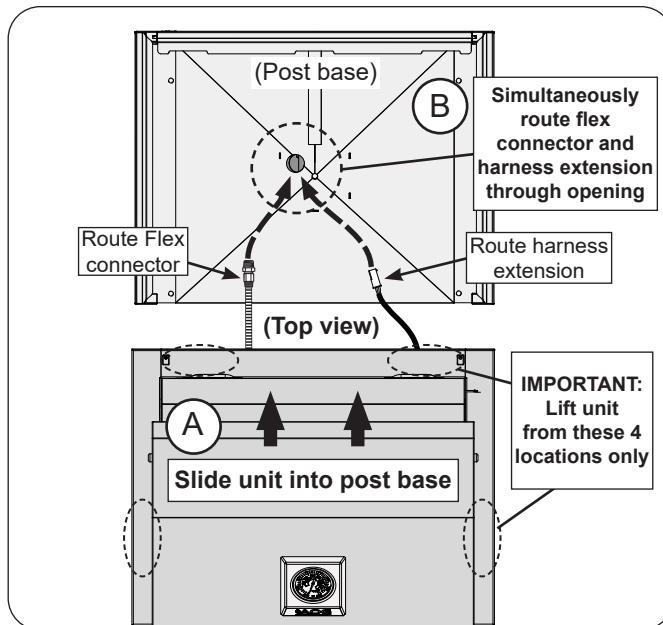

Fig. 15-1 Install grill to post base
DO NOT lift the unit from the front panel when installing. Lift only from the designated areas shown in Fig. 15-1.
1. Carefully lift and place the rear end of the appliance over the post base opening and begin to slide the unit inward (Fig. 15-1, A). **DO NOT SLIDE THE UNIT IN COMPLETELY!** **While installing:**
- Be sure to simultaneously route the flex connector and wire harness extension (if applicable) down through the large circular opening on the upper portion of the post base. See Fig. 15-1, B.